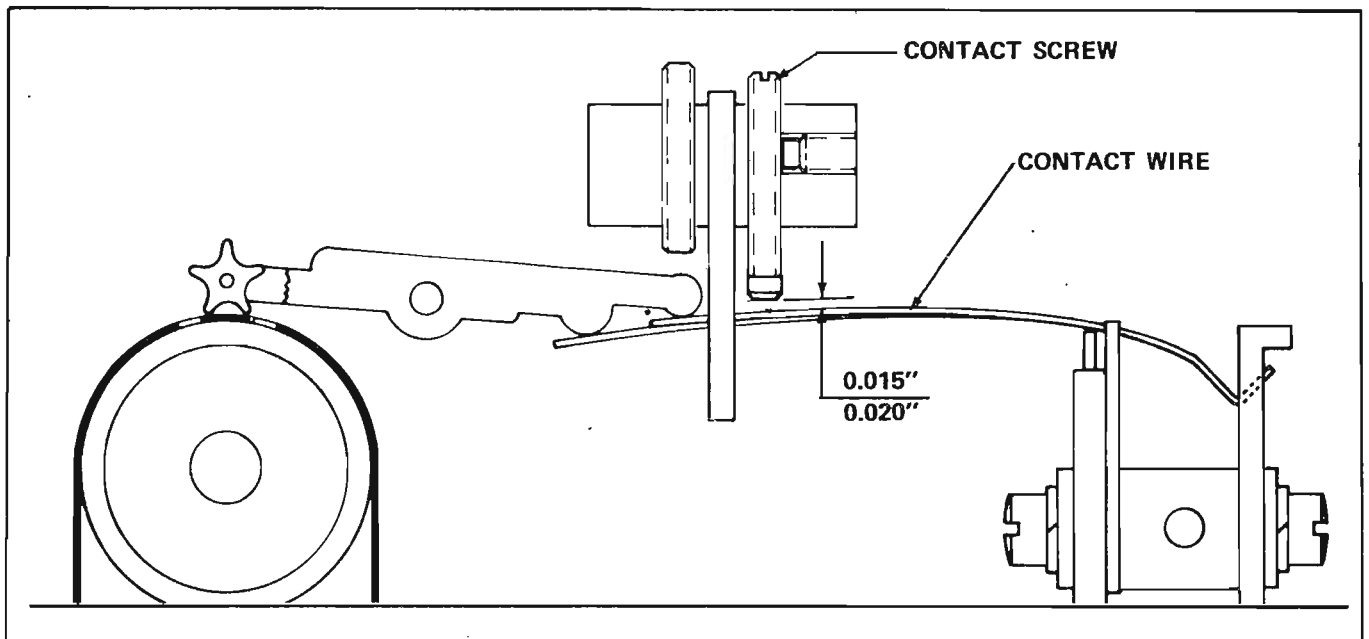

FIGURE 62 - CONTACT WIRE AND CONTACT SCREW GAP ADJUSTMENT
- (e) Advance tape to no-hole position and check for gap between contact wire and contact screw. Gap should be 0.015" (.038 cm) - 0.020" (.0508 cm). See Figure 62.